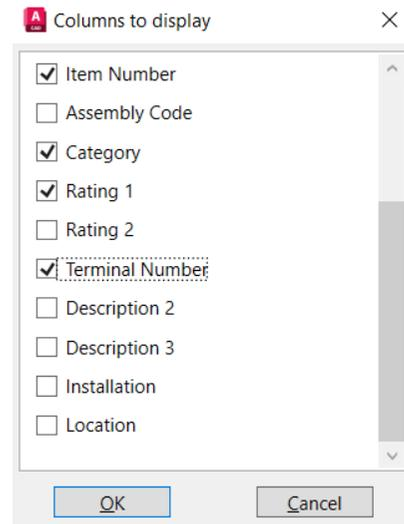

Figure 2-79 The *Columns to display* dialog box
- Scroll down in the **Columns to display** dialog box and select the **Category**, **Rating1**, **Location** and **Terminal Number** check boxes, as shown in Figure 2-79. Next, choose **OK**; the **Category**,